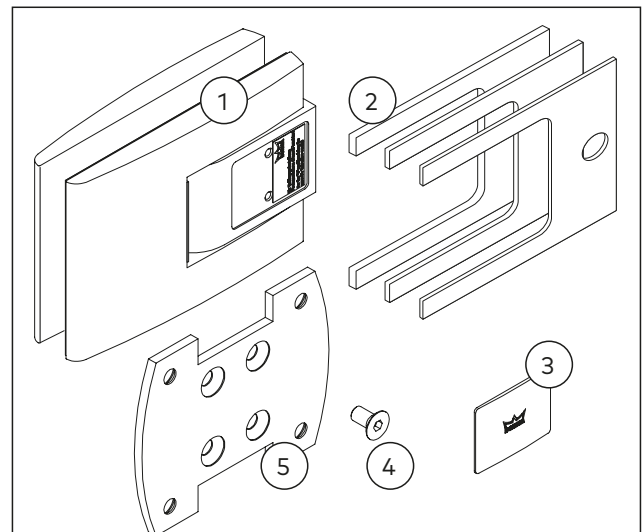

Fig. 40 Scope of delivery for the wall mounting with surface mounted mounting plate
- ▶ 2 x double action hinge (Fig. 40/ 1)
- ▶ Gaskets each 4 x with 3 various thickness levels: 1 mm, 2 mm, 3 mm (Fig. 40/ 2)
- ▶ 12 x cover cap in 3 different colors (Fig. 40/ 3)
- ▶ 8 x countersunk screw M6 x 12 (Fig. 40/ 4)
- ▶ 2 x mounting plate (Fig. 40/ 5)